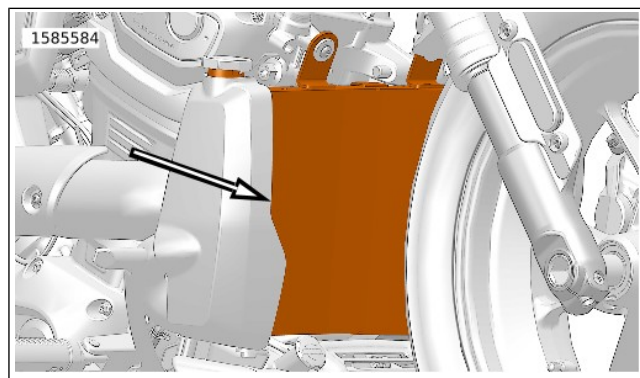

Figure 71. Radiator (Typical)
1. See Figure 71. Clean debris from radiator fins.